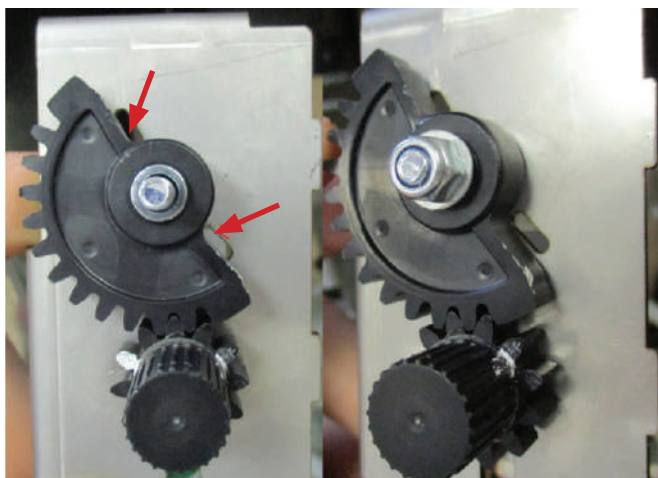

Fig.4.16
6. After obtaining the required result set the geared sector as shown in fig. 4.16.